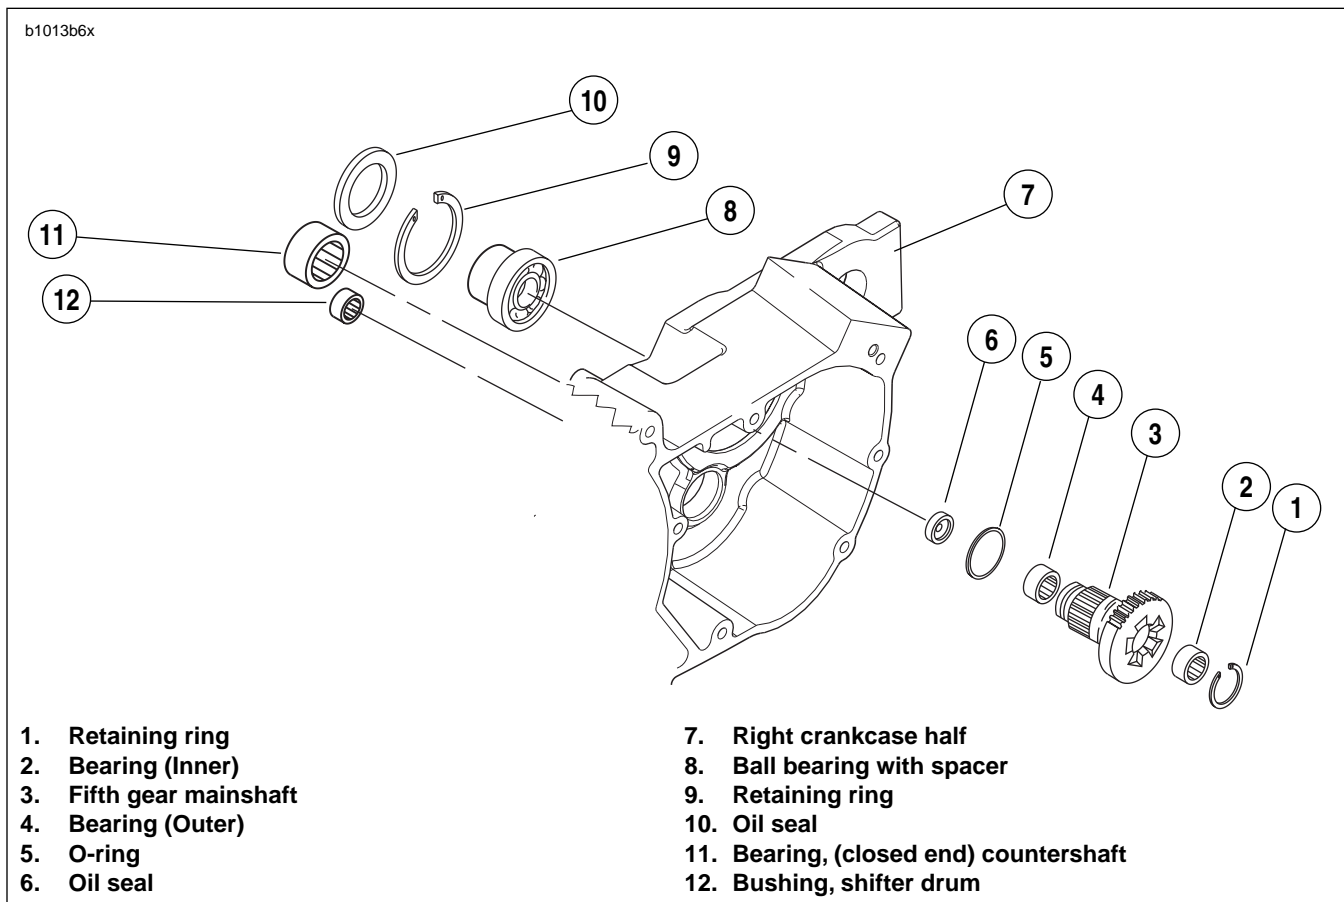

Figure 6-83. Transmission Assembly-Right Crankcase Half
2. See Figure 6-83. Install o-ring (4) into groove in main drive gear (2). Lubricate o-ring with GENUINE HARLEY-DAVIDSON FORMULA+ TRANSMISSION AND PRIMARY CHAINCASE LUBRICANT.
See Figure 6-83. Make sure to install **new** o-ring (6) onto main drive gear before installing main drive gear into crank-case.
4. At outside of case, place INSTALLER CUP (Part No. HD-35316-12) (4), NICE BEARING (5), FLAT WASHER (6) and NUT (7) over end of bolt. Tighten nut until main drive gear bottoms against main drive gear bearing.
6. See Figure 6-83. Tap in **new** oil seal (6) at threaded end of main drive gear to a depth of 0.060-0.030 in. (1.524-0.762 mm).
- See Figure 6-83. From inside transmission case use a suitable BEARING DRIVER/PULLER to remove countershaft bearing (11) from crankcase bore.
- See Figure 6-83. From the outside of the case place the needle bearing (11) open end first next to the bearing bore. Hold the driver squarely against the closed end of the bearing and tap the bearing into place. The bearing is properly positioned when it is driven flush or 0.030 in. (0.762 mm) below the outside surface of the case.
- See Figure 6-83. Using SNAP-ON BUSHING DRIVER SET (Part No. A-157C) with a 1/2 inch adapter (Part No. A157-8), install **new** bushing (12).